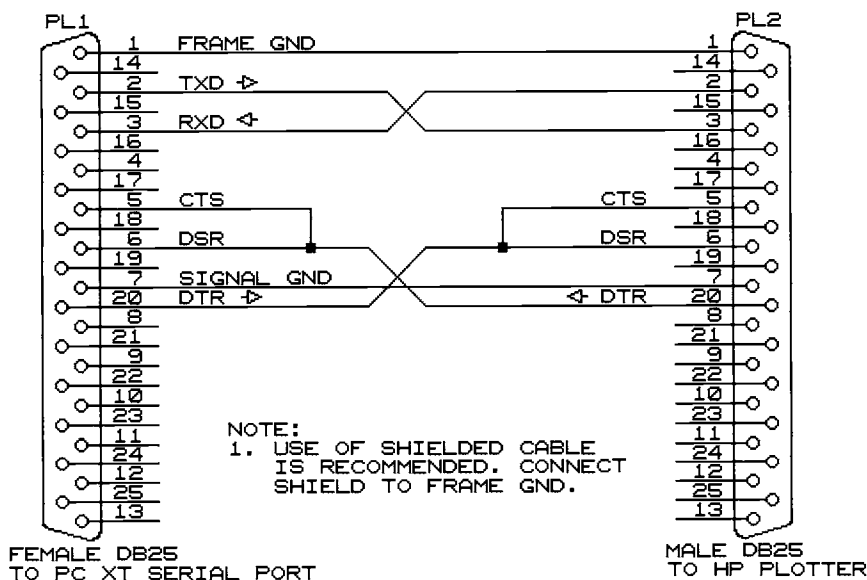

Figure A-1 PC XT Plotter Cable for Hardware Handshaking
All RS-232 communications links require at least three signal wires. The minimum connections include TXD (transmitted data), RXD (received data), and SIGNAL GROUND. Hardware handshaking requires additional signals that control data flow. Refer to Figure A-1 for a PC XT serial port to HP plotter cable. The hardware handshake signals are CTS (clear to send), DSR (data set ready), and DTR (data terminal ready). The computer senses the CTS and DSR lines that are connected to the DSR signal from the plotter. When the plot data buffer is empty or below a certain lower threshold, the plotter asserts the DTR signal. The computer will then start to send data. When the plot data buffer fills beyond an
The cables shown in Figures A-1 and A-2 implement hardware handshaking. Note that these cables are for full bidirectional data communications. In some cases data is only transferred from the computer to the plotter and the return data path is not used.
Plotting on-line directly from OrCAD requires hardware handshaking. If you connect an HP plotter to your PC workstation and plot directly from OrCAD, you must use one of the cables shown in Figures A-1 and A-2. The choice of cable depends on whether your PC uses 9 pin or 25 pin connectors. The 25 pin connector originated on the PC XT and the 9 pin originated on the PC AT. Some multi-purpose IO cards include one serial port with a 25 pin connector and a second port with a 9 pin connector. In the PC environment, the term "COM" port refers to an RS-232 serial port.
Cables such as those shown in Figures A-1 and A-2 are available from HP. Common RS-232 cables sold in computer stores for connecting an external modem are unlikely to have the correct signal connections. If you are handy with a soldering iron, you can make your own cable. You should be able to find the connectors and cable at Radio Shack. Shielded cable is preferred, but not required for most installations unless the cable is very long. The FRAME
GROUND signal to pin 1 in Figure A-1 is not required, but may help in noisy environments. No FRAME GROUND signal exists on PC AT style 9 pin RS-232 connectors.
- OrCAD requires hardware handshaking when plotting directly on-line. You may be able to use one of the hardware handshaking cables shown in Figures A-1 or A-2 with AutoCAD. Based on the author's experiments, this appears to work. The extra control lines become redundant when plotting direct from AutoCAD which requires only three-wire RS-232 communications.